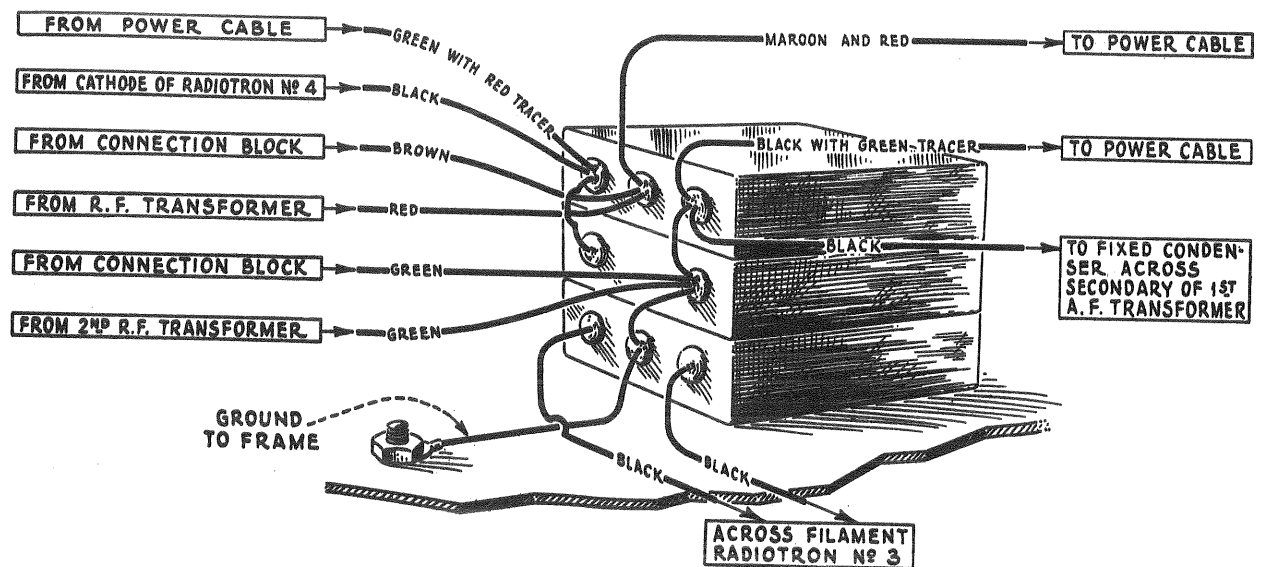

Figure 21—Connections and color scheme of wiring to by-pass condensers
7. Reconnect all wire leads removed from the large fixed condensers. The correct connections are shown in Figure 21.